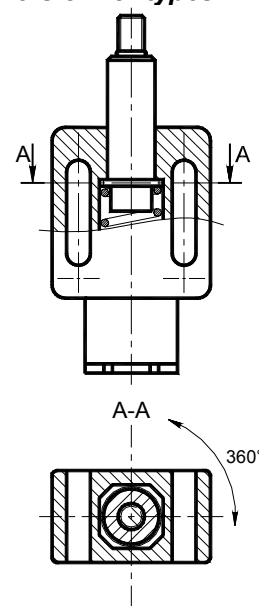

fig 1
*It considers the use of a washer with square section that it prevent completely the rotation of the column, its advantage is to be an easy and cheap solution. The picture 2 shows the difference of construction between a "TBa" anti-rotation element and a "TN" or "TB" element (figure 1) where the column has the possibility to rotate on its own axis. In the "TBa" element the rotation is prevented by a washer with square section positioned in the aluminium box body, that has square section too. In the "TN" or "TB" elements, instead, is used a washer with round section.*